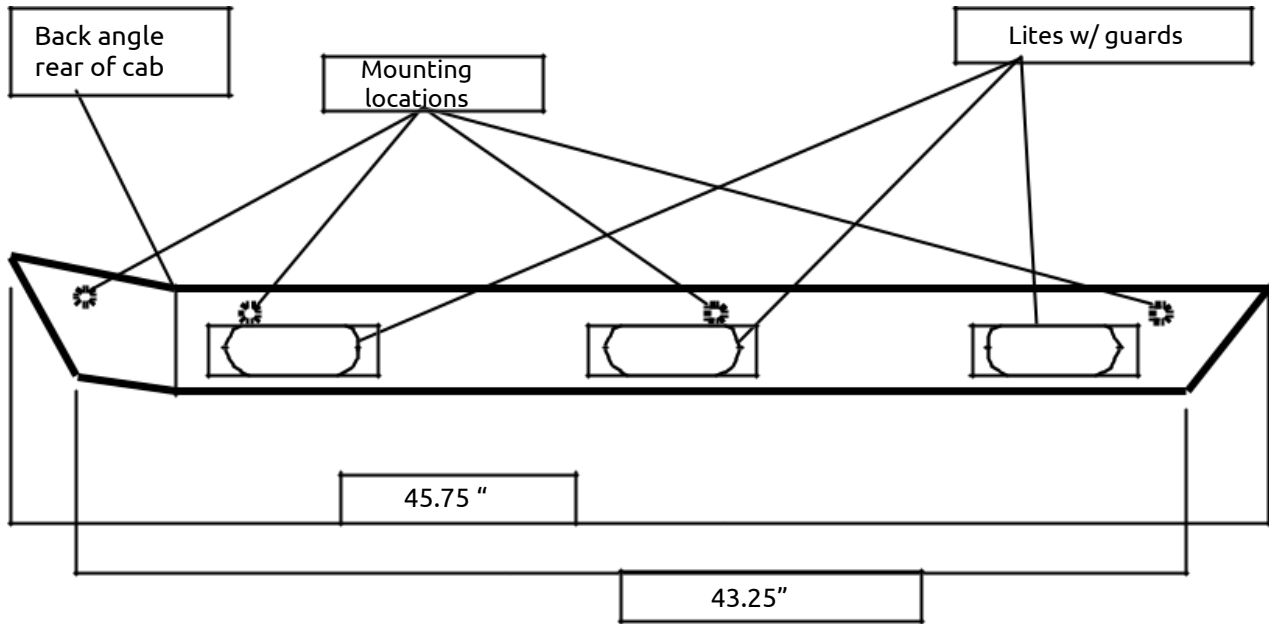
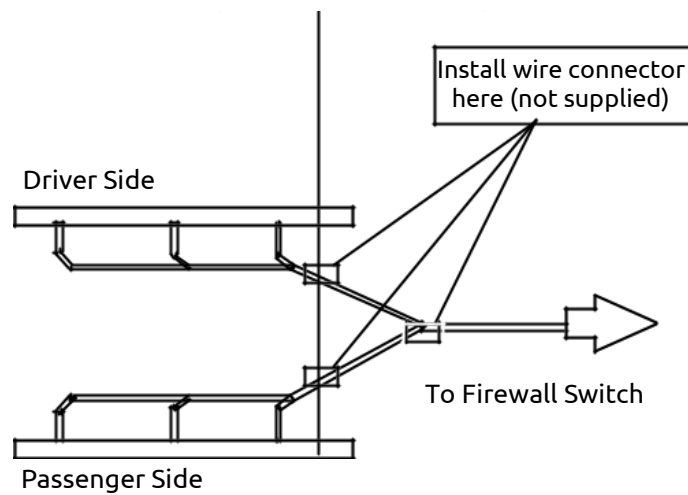

Fig. 1
Fig. 2
1. Hold one (1) cab skirt against bottom edge of cab, with bent end of panel contouring toward the rear of the cab (see Figure 1). Position skirt so that the four (4) mounting holes overlap bottom of cab.
2. Mark location of four (4) mounting holes on bottom of the cab. Remove skirt for drilling.
3. Drill four (4) 3/16" diameter holes where holes have been marked.
6. Connect additional wire to cab skirt's wiring harness to run through firewall into interior of cab (see Figure 2). Feed wire up to switch panel.